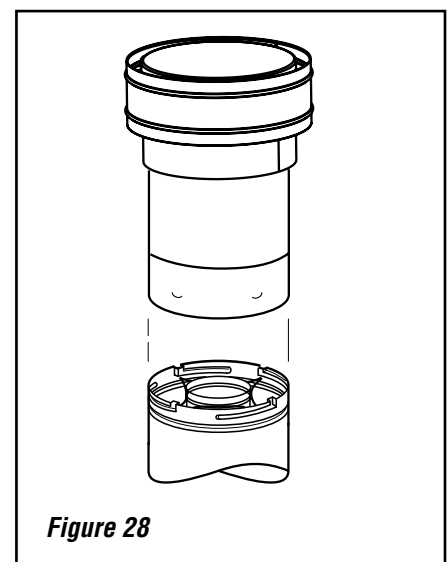

Figure 28
K. Install the vertical termination - The final step involves installation of the SV4.5CGV-1 Vertical Termination. Extend the vent sections to the height as shown in the "Vertical vent termination section" on **Page 6**. The SV4.5CGV-1 Vertical Termination (**Figure 28**) installs in the exact same fashion as any other **Secure Vent®** section. Align the termination over the end of the previously installed section, adjusting the radial alignment until the four locking dimples of the termination are aligned with the inlets of the four incline channels of the last vent section. Push the termination down until it fully engages, then twist the termination clockwise running the dimples down and along the incline channels until they seat at the end of the channels.